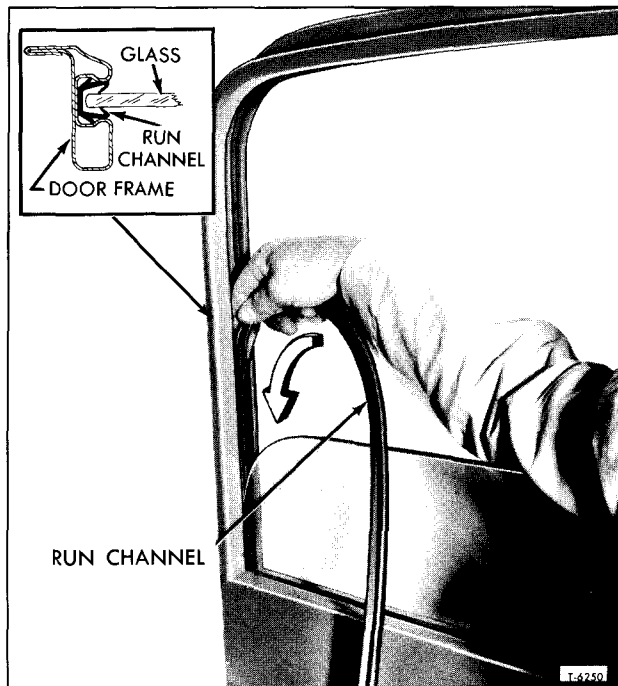

Figure 27—Installing Glass Run Channel
5. Also if desired, the door glass run channel assembly can be removed at this time. Pull run channel from door. (Refer to figure 27.)
REMOVAL (Fig. 27)
INSTALLATION (Fig. 27)
2. Start end of run channel into door side frame, then force it downward in manner shown in figure 27. By engaging length of channel required to butt against vent window frame, the amount of channel to be inserted downward can be determined. Use thumbs to press channel into position.
Referring to inset of figure 27, be sure to properly position run channel so that channel lips lock behind grooves of window frame.